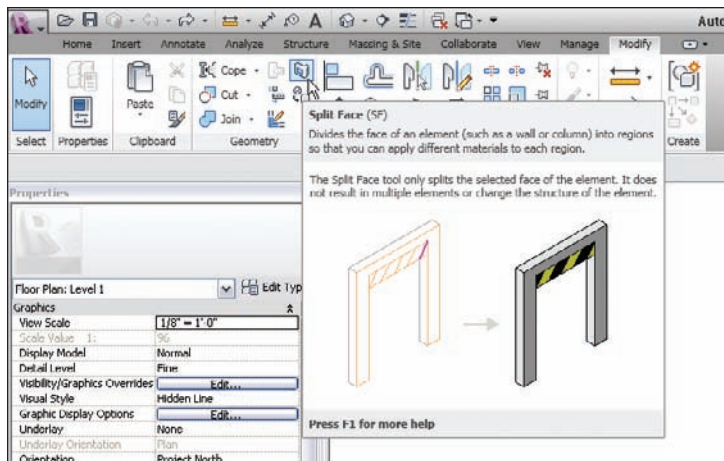

FIGURE 6.39 The Split Face button is located on the Geometry panel of the Modify tab.
2. On the Geometry panel of the Modify tab, select the Split Face button, as shown in Figure 6.39.